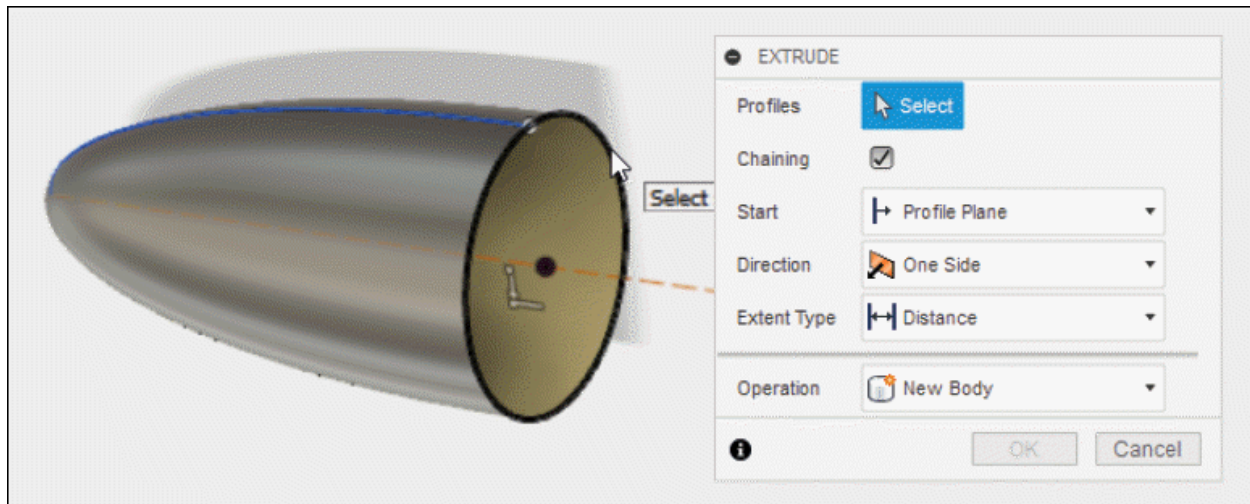

Figure-41. Selecting sketch to extrude
- Select the sketch as displayed to extrude; refer to Figure-41.